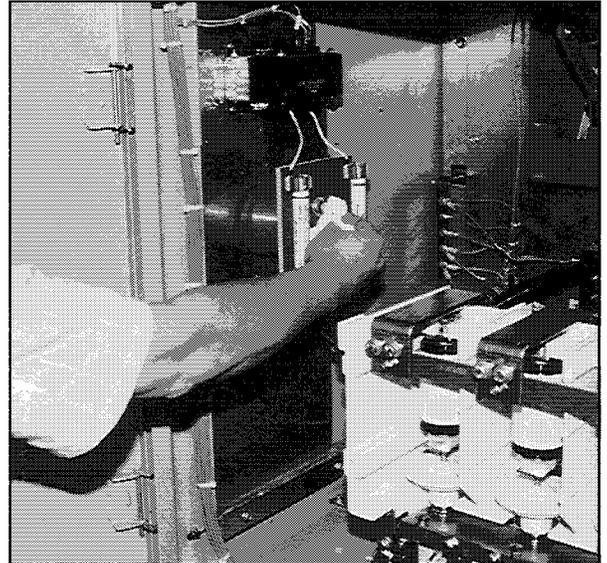
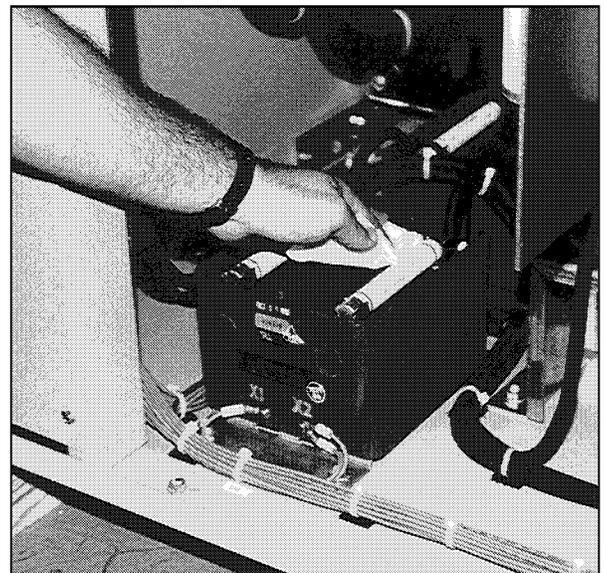

Fig. 58 Inspect Primary Fuses Mounting Plate
Fig. 59 Inspect Control Power Transformer (Optional)
- Wipe off the surface of the primary fuses mounting plate (Fig. 58), and the control power transformer(optional), (Fig. 59).